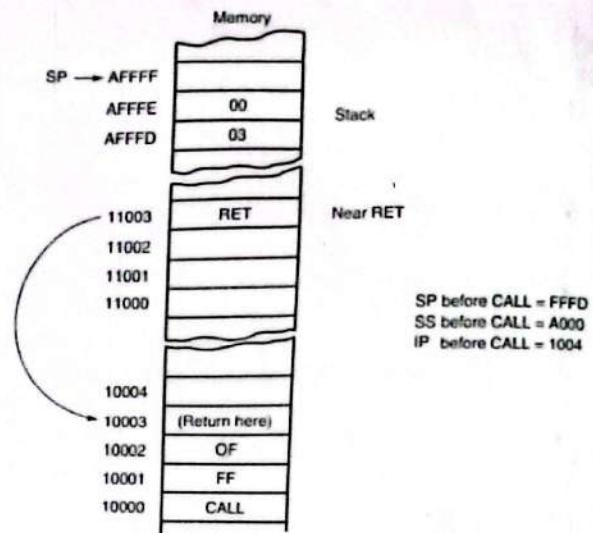

FIGURE 6-8 The effect of a near return instruction on the stack and instruction pointer.
- In a Near Return only the **IP** is restored. (figure 6-8), on the next page.